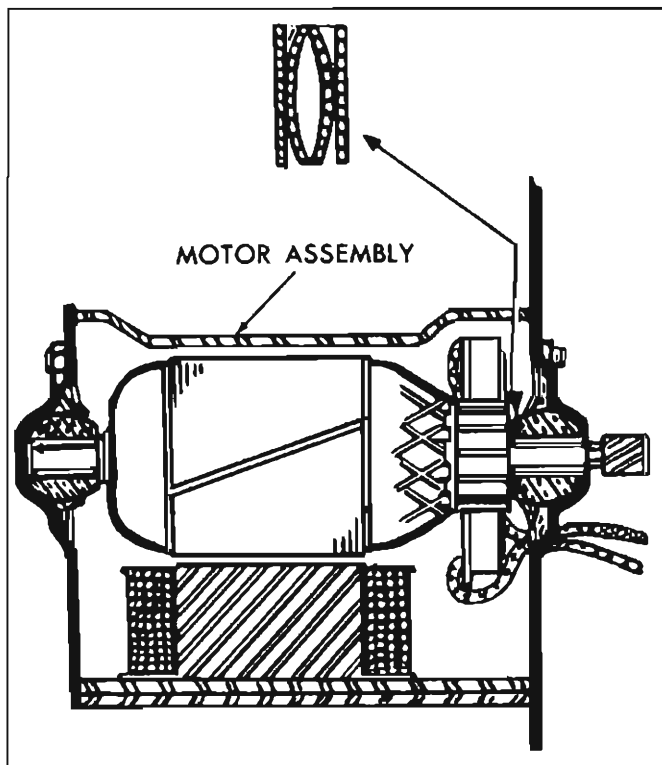

Fig. 8-19—End Play Washers Installed
**NOTE:** Lubricate armature shaft bushings with light machine oil. Armature end play is automatically adjusted by the proper installation of end play wave washers (fig. 8-19).